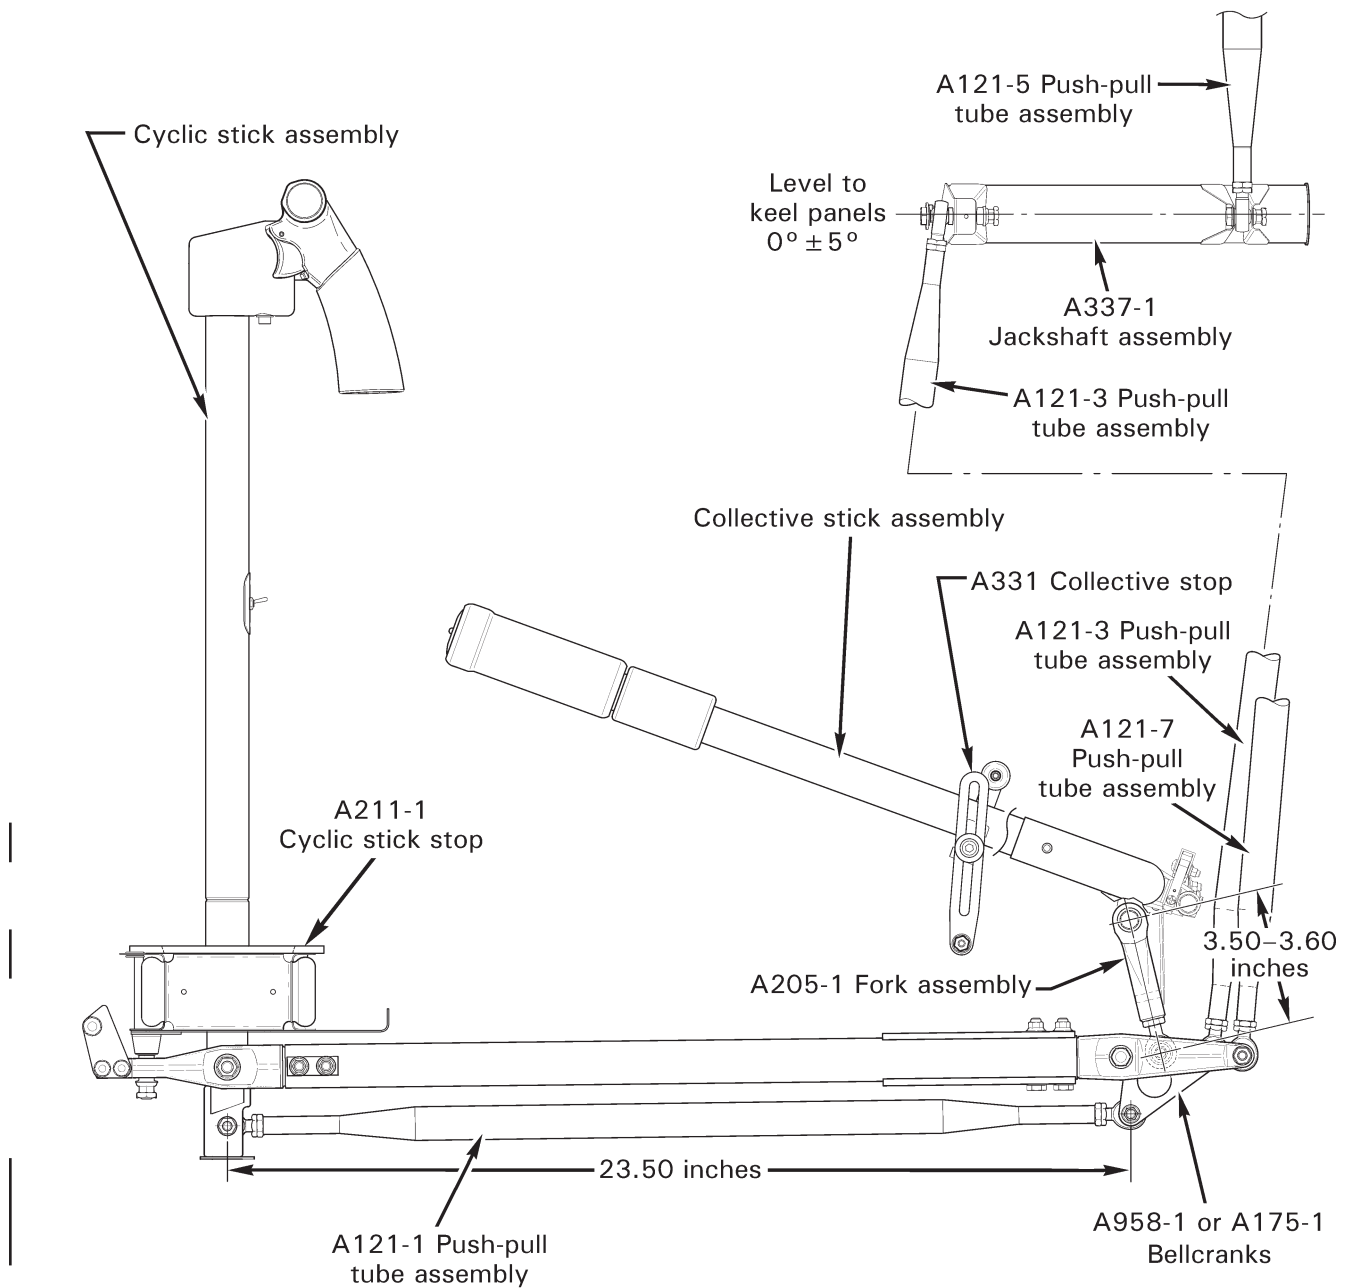

FIGURE 8-3 CYCLIC AND COLLECTIVE CONTROL
7. Refer to Figure 8-3. If A205-1 fork was removed from A101-4 rod end, screw fork onto rod end between 3.50–3.60 inches from center of rod end hole to centerline of attach bolt hole. Standard torque jamnut per § 23-32 and torque stripe per Figure 2-1.